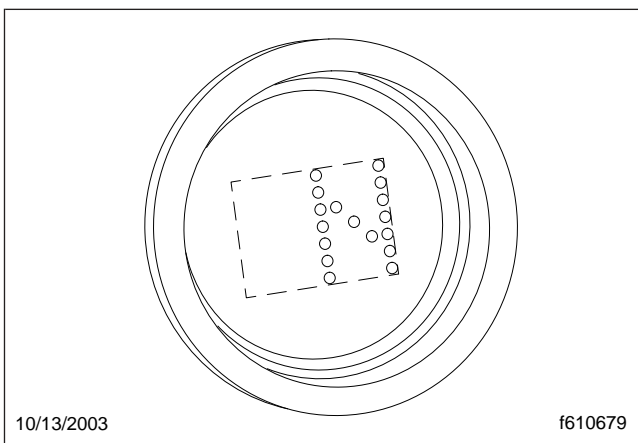

Fig. 14.5, Gear Indicator: Neutral
3. Wait for the current gear indicator to show a solid N. See Fig. 14.5. When the N is solid (not flashing), the TCU is powered up. Apply the service brake and start the engine.
N is located directly below R on the four-position gear selector switch on the SmartShift control lever. To select N, move the gear selector switch to the position below R. When neutral is selected, the letter N displays on the current gear indicator. See Fig. 14.5.